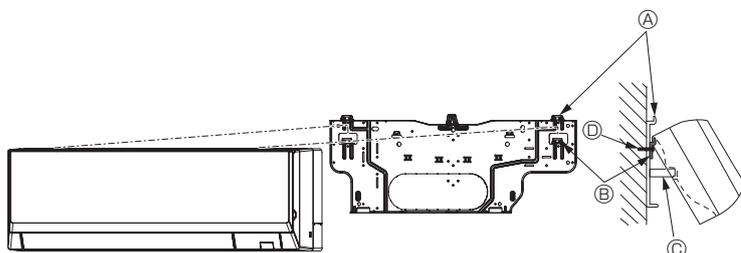

Fig. 3-13
- When the indoor unit cannot be hanged and lifted up with the regular hook (the dimension of 2.1. ⓐ) (the clearance between the ceiling and the unit) is 75 mm or less), hang the unit on the lower hook for left piping. (Fig. 3-13)
(Fig. 3-13)